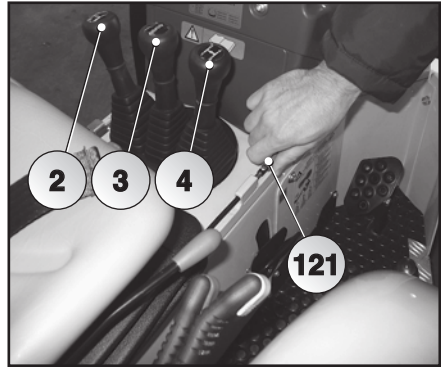

Fig. 5.3
- 2 - position the three gearbox levers (2) (3) (4) (Fig. 5.3) in neutral;
- 3 - pull the unlocking lever (121) and lift the seat until the safety lock (122) clicks;
- 4 - Rotate the seat-dashboard unit counter-clockwise 180° to go from the normal operator position (road traffic) to the reverse operator position (Fig. 5.3); rotate clockwise to go from the reverse operator position to the normal operator position;
- 5 - Release the safety lock (122) and lower the seat again so that the lever (121) is reinserted into the locked position;